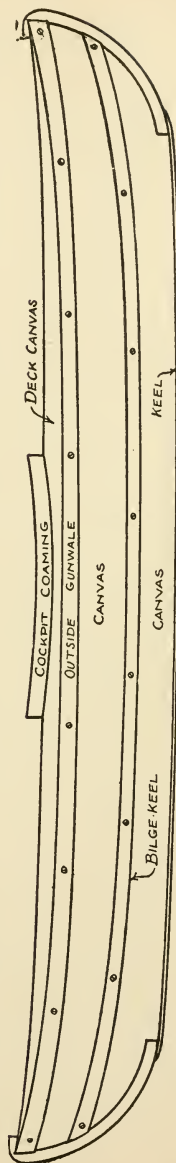

FIG. 212. — The Canvas Canoe completed.
**The Keel.**—So cut a lattice-strip eight feet in length, and screw it along the bottom of the keelson (see Fig. 212).
**The Bilge-keels** are lattice-strips fastened along the sides of the canoe as a protection to the canvas, and should be attached directly over the ribbands. One of these on the centre ribband of each side will be sufficient (see Fig. 212).
round-headed screws, after which they should be painted. Figure 212 shows the canoe completed.